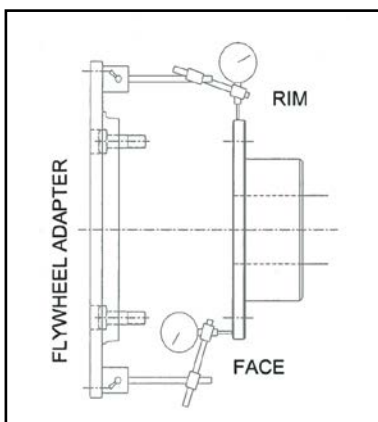

FIG.3: DIAL INDICATOR MOUNTING FOR RIM & FACE READINGS
8. Alignment can be performed using laser equipment if available, or with dial indicators as described following. Attach a dial indicator's base to one hub or the flywheel adapter, and indicate a point on the other hub flange's outside diameter. See Figure 3.